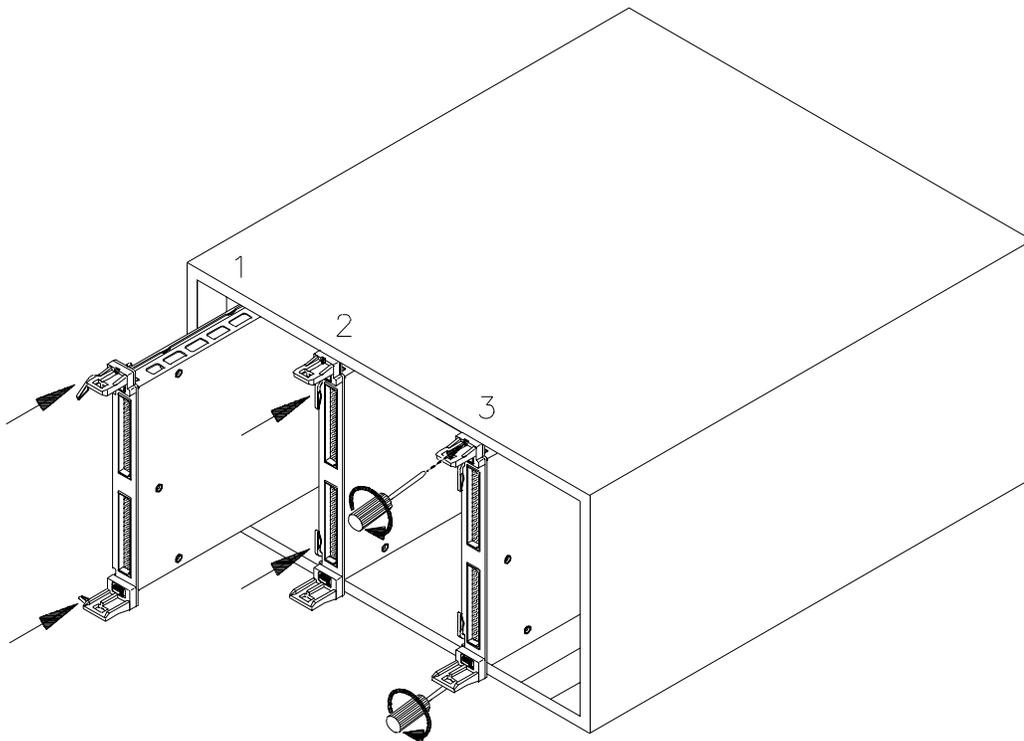

Figure 1-5. Installing the E1418A in a VXIbus Mainframe
3. Install the module in a mainframe as shown in Figure 1-5.